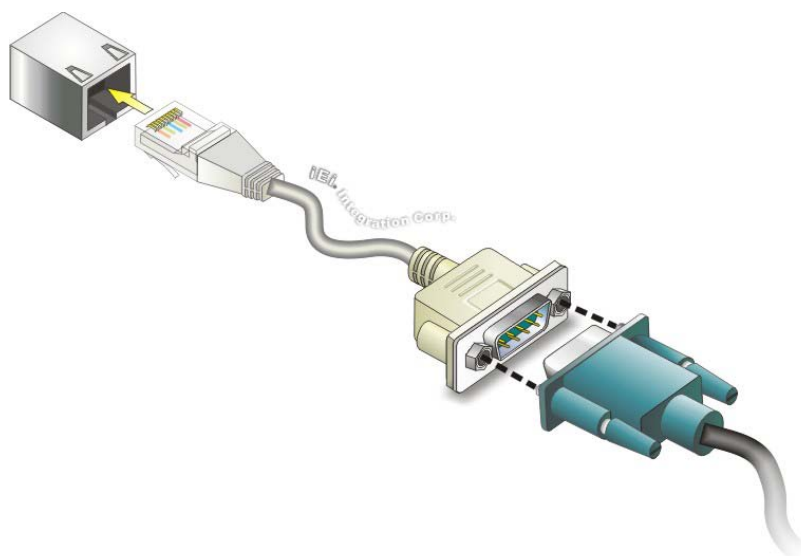

Figure 3-18: RJ-45 RS-232 Serial Device Connection
Step 2: Insert the RJ-45 connector. Insert the RJ-45 connector on the RJ-45 to DB-9 COM port cable to one of the RJ-45 RS-232 connectors on the TANK-860-HM86 Series. See **Figure 3-18**.